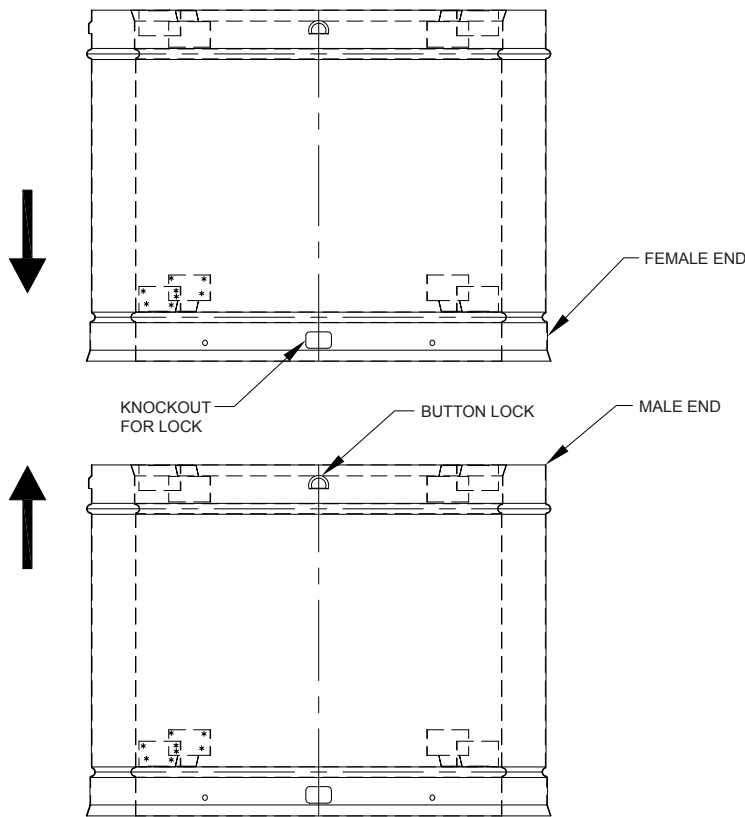

FIG. 2
**Attach Chimney:** Attach the first section of chimney on the Anchor Plate. The joint assembly is a male to female slip fit and held together with button lock tabs. See FIG. 2. Maintain a 2 inch clearance to combustibles. Do not fill the clearance space with any materials. If an offset is required, refer to Elbow Offset Installation Section.